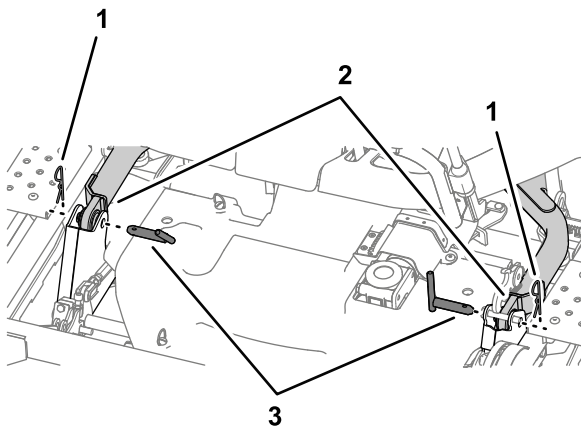

Figure 115
10. Remove the 2 lynch pins and 2 clevis pins that secure the lift arms at each side of the mower deck (Figure 115).
- 6. Install the lynch pin and clevis pin to secure the lift arms on each side; refer to Figure 115 in Removing the Mower Deck (page 75).